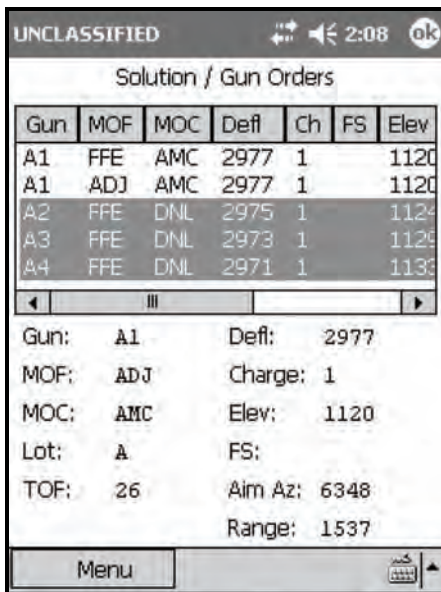

Figure 18-59. Final Protective Fire: A1's initial adjustment.
(27) Select Use All.
(28) The Solution/Gun Orders screen (Figure 18-59) displays.